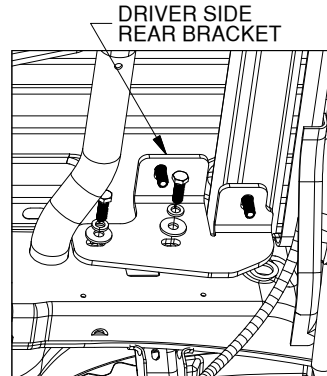

FIGURE C4: View looking up at driver side frame
6. **Install the driver side rear bracket.** Locate the driver side rear bracket, two M12 x 35mm hex head bolts (shorter), two 1/2" split lockwashers, and two 1/2" flat washers. Position the bracket under the installation location of the two driver side carriage bolts. Maneuver the bracket so that the 1/2" carriage bolts passes through the slots at the top of the bracket. Using 1/2" lockwashers and 1/2" flat washers, Thread the shorter (35mm) M12 hex head bolts into the frame through the holes in the bracket, see figure C4.